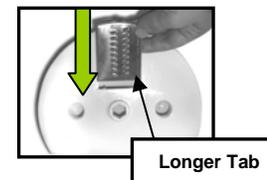

Fig. 12
- Place the blade of your choice on the blade holder. Insert the longer tab on the side of the blade holder first. (Fig. 12)